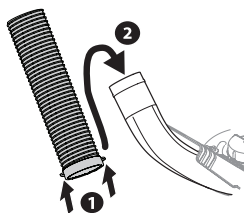

Figure 17
2. Lift by the handles at the bottom of the hose. Slide the hose over the boot mounted on the cutting deck, as shown in Figure 17.